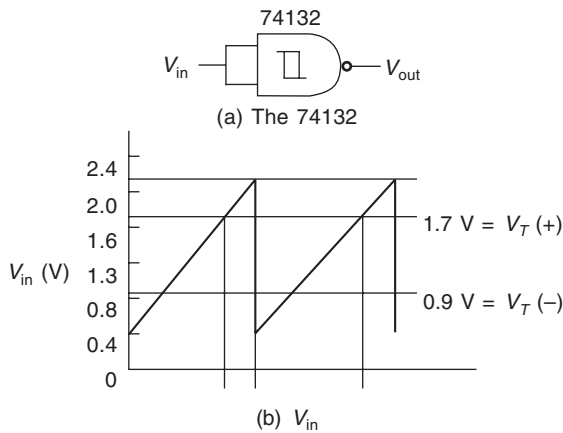

Fig. 12.71
38. The V_{in} waveform to the 74132 Schmitt trigger NAND gate in Fig. 12.71(a) is given in Fig. 12.71(b). Sketch the output (V_{out}) waveform. Determine the duty cycle of V_{out} .